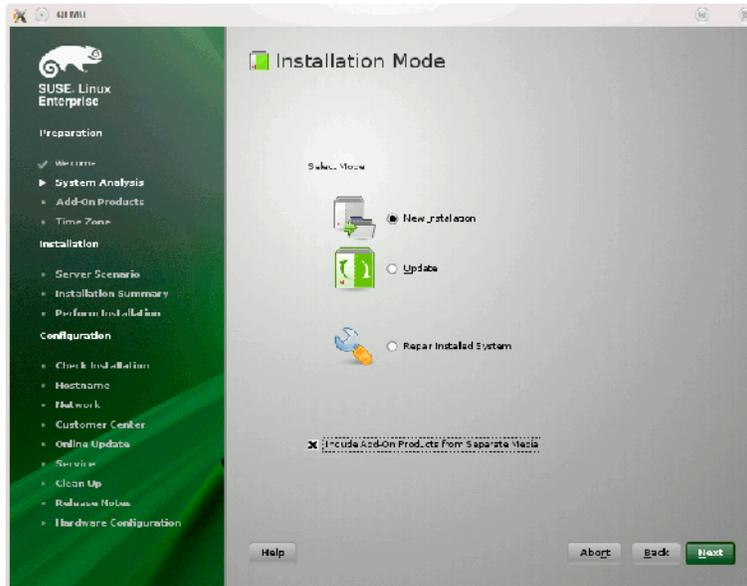

Figure 1-13 SLES11 Installation Mode Screen
2. Follow the steps in the *SUSE Linux Enterprise Server 11 Installation Quick Start*. When you get to the **Installation Mode** screen, as shown in Figure 1-13 on page